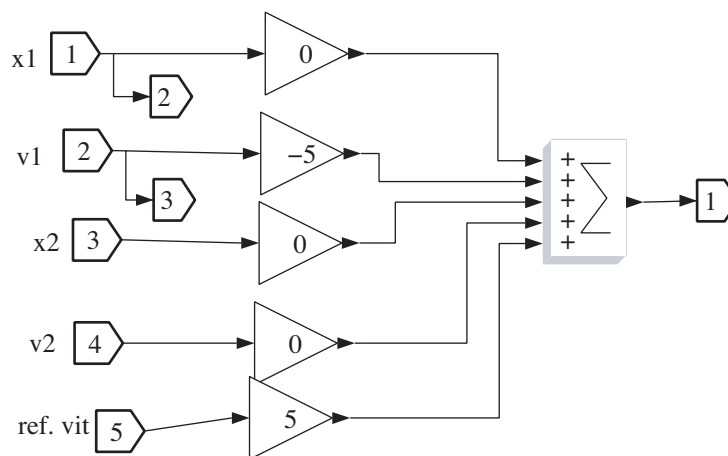
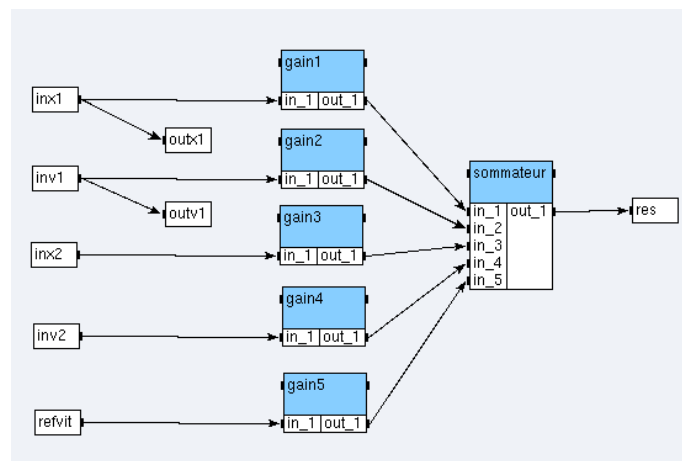

Figure 8.1: Scicos controller of the first car
Figure 8.2: SynDEx controller of the first car
Our controllers are simple. They are represented in figures 8.1 and 8.3 in Scicos and figures 8.2 and 8.4 in SynDEx:
- finally create both algorithms `controleur1_sup` and `controleur2_sup` (cf. figures 8.2 and 8.4), setting their gain parameters respectively to 0, -5, 0, 0, 5 and 4, 4, -4, -4.